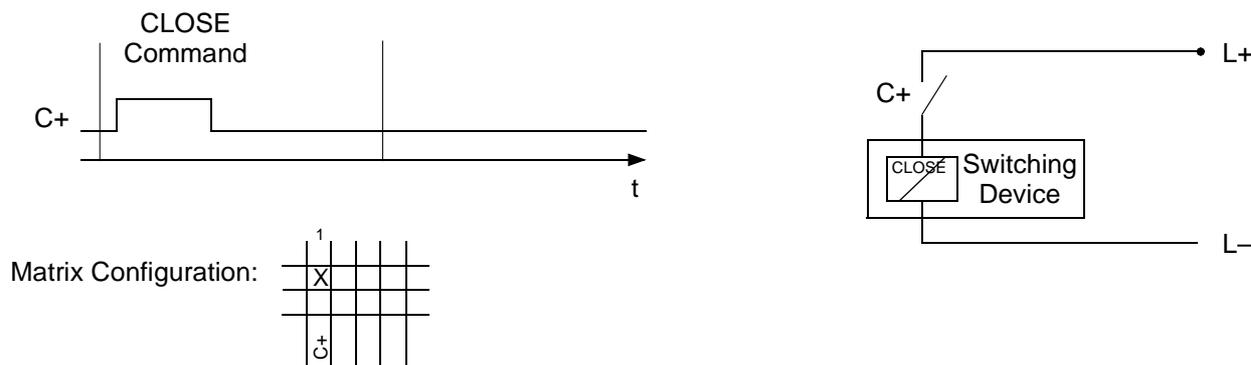

Figure 5-4 Single command with single contact
- ❑ Set for each device whether it should trip 1pole, 1¹/₂pole or 2pole, with single or double point indication, with or without feedback (see Table 5-1 and Figure 5-4 to 5-9). Thus the necessary quantity of the information to be processed is calculated and the type of command is determined.
For Figures 5-4 through 5-9, the following abbreviations apply: